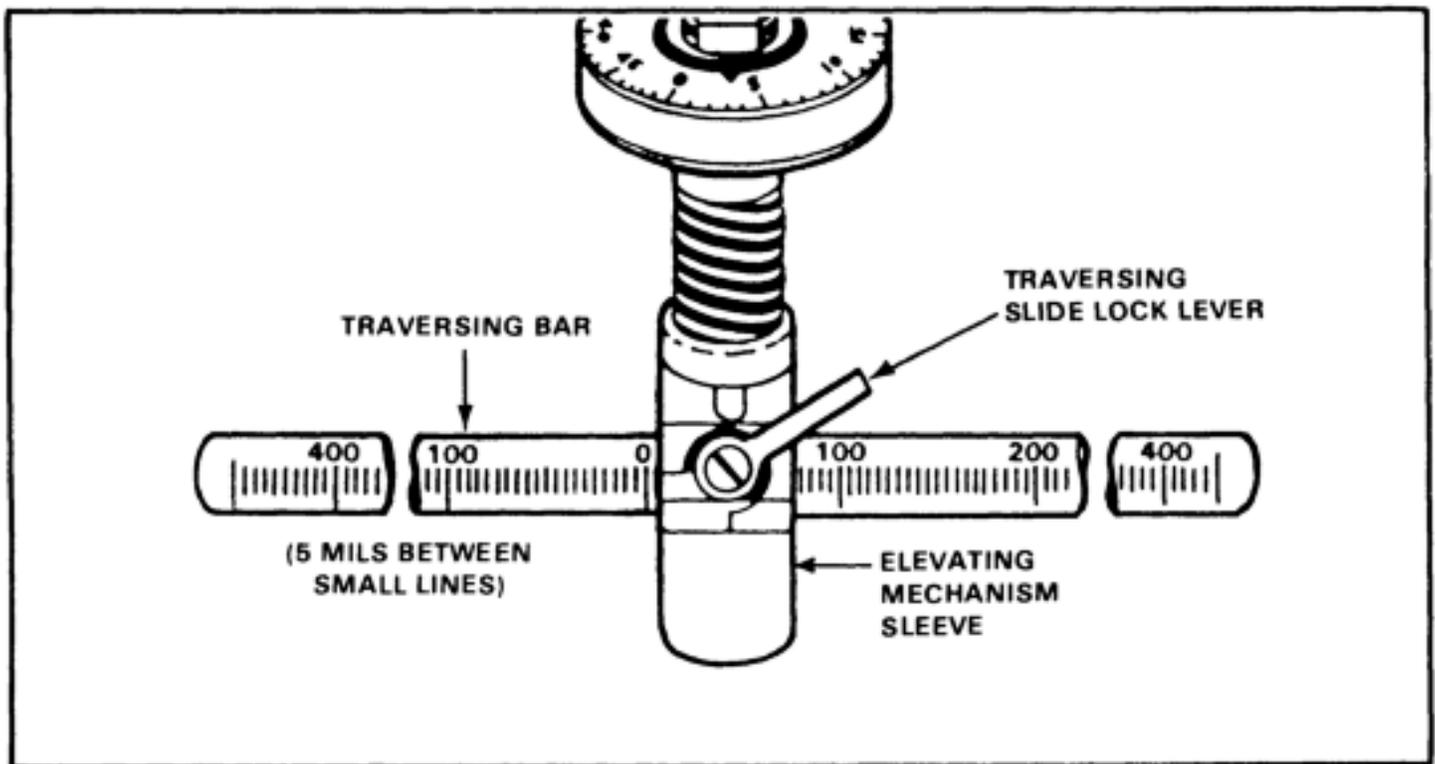

Figure 5-6. Direction reading.
(1) To zero the traversing handwheel, hold the T&E so the traversing handwheel is on your left as you look at it. Turn the traversing handwheel toward you until it stops. Loosen the locking nut slightly. Align the 0 on the scale with the 0 on the elevating screw yoke. Hold the scale with the 0's aligned, and tighten the locking nut. Make sure the 0's stay aligned. Turn the traversing handwheel two complete revolutions away from you. If doing this at night, count 50 "clicks" away from you.
(2) To zero the elevating handwheel to the upper elevating screw, align the two 0's. Rotate the elevating handwheel up or down until a 0 with a line below it is visible on the upper elevating screw. Position the elevating handwheel so the indicator is pointing at the 0 on the handwheel.
(3) Zero the elevating mechanism sleeve to the lower elevating screw. Rotate the elevating mechanism sleeve all the way up; rotate it down until it stops; note the number of complete turns. Rotate the elevating mechanism sleeve up half that many turns. Position the slide lock lever to face you. Attach the T&E to the tripod and gun.
c. Obtain and record direction readings to all targets within the sector of fire (Figure 5-6). Loosen the traversing slide lock lever and move the slide along the traversing bar until the MK 19 is laid on the center of a point target or on either flank of a linear target. Lock the traversing bar and read the direction from the scale on the traversing bar. If the left edge of the traversing slide does not fall exactly on a 5-mil tickmark, move the left edge of the traversing bar slide back to the next smaller mil reading. Use the traversing handwheel to complete the initial lay. Obtain a reading to the target by the direction of the MK 19 barrel. If the barrel is moved to the right, record a right reading. Read the number on the traversing bar from the left side of the traversing slide lock. If the barrel is moved to the left and the traversing slide lock is on the right side of the zero, record a left reading. After taking a direction reading for a target, measure the width of the target in mils using the traversing handwheel to move across the target. Reposition the traversing mechanism before moving to another target.